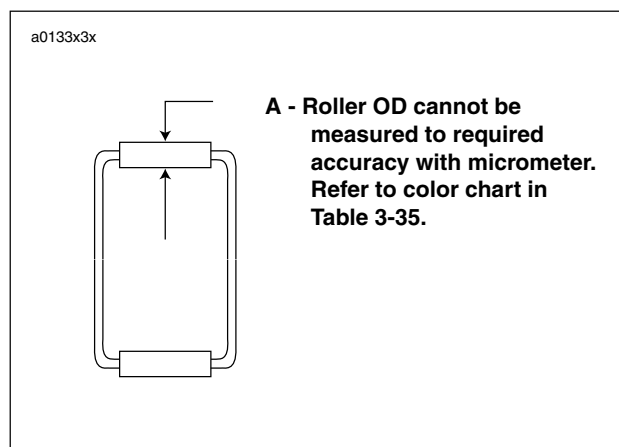

Figure 3-118. Bearing Identification
16. See Figure 3-118. Pinion bearings are identified as shown.